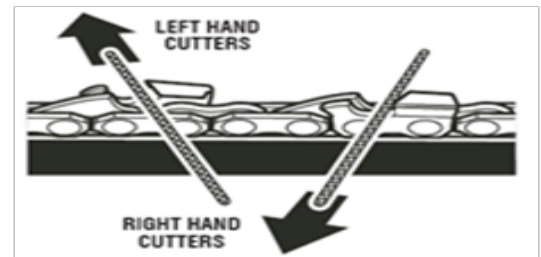

Figure 29
1. Position the File into a left hand cutter with the holder and file at a 30° angle to the Bar (**Figure 29 and 30**).